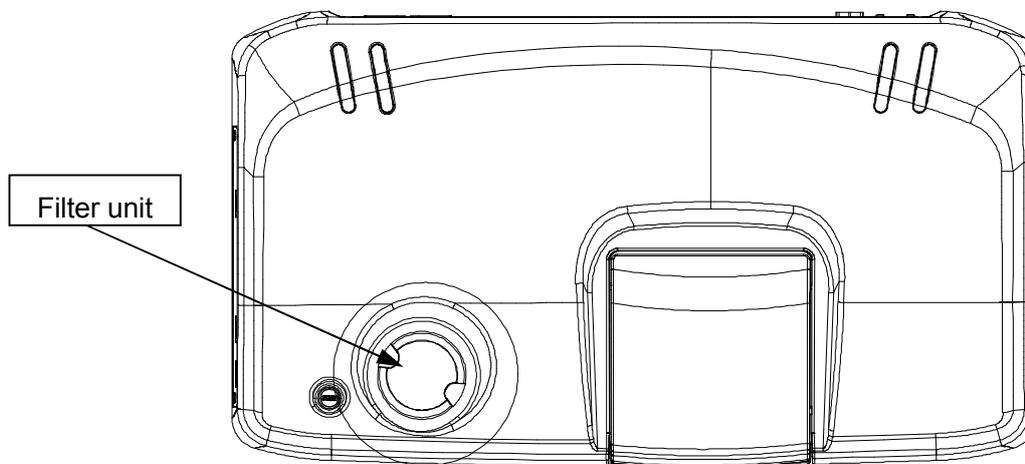

Figure 1.3 Filter unit
The lock screw for the light source exchange mirror is on the left side of the bottom of the filter insertion part of the polarimeter (Fig. 1.3). Follow the procedure below and loosen the screw for the light source exchange mirror.
- (1) Use a Phillips-head screwdriver.
- (2) There is a lid on the left of the case (Fig. 1.3). Remove the lid by rotating it.